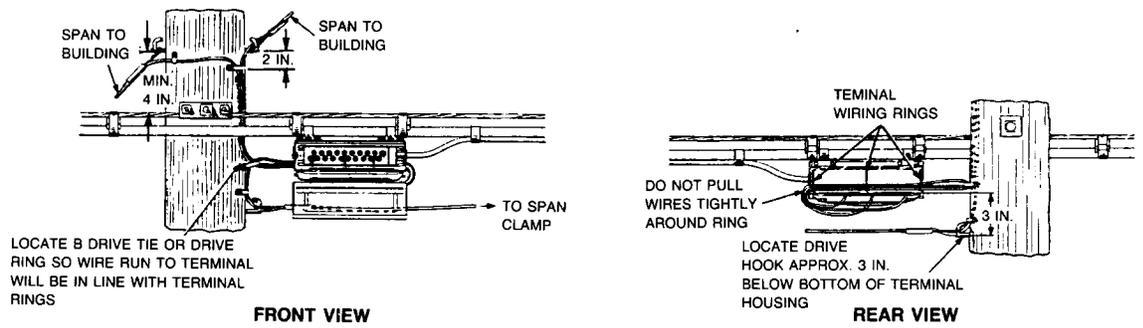

Fig. 10 - Running Drop Wire to N-Type Cable Terminal From Pole
3.11 Refer to Fig. 10, 11, and 12 for typical arrangements of drop wires at N-type terminals. Note that the arrangements of wires are similar at all strand-mounted cable terminals.